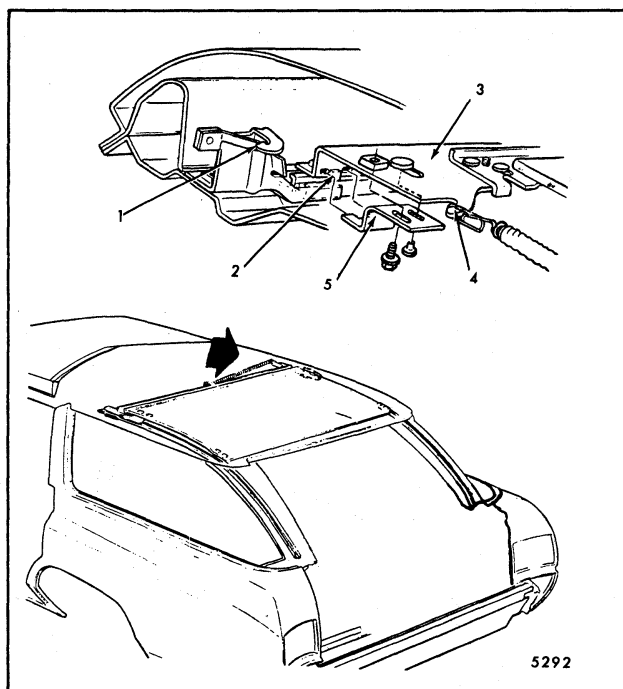

Fig. 7-126-Drive Cable Flag Retainer and Window Lift Spring Details
5. Through access hole described in step 4, transfer window assist spring from retainer on window guide cam to hook on window right upper roller support (Fig. 7-126).
3. Detach headlining over quarter glass on right side sufficiently to reveal access hole at forward attaching location of window guide cam (Fig. 7-126).
5. Through access hole in roof inner panel detach spring from retainer on guide cam (Item "1", Fig. 7-126) and withdraw spring rearward from body.